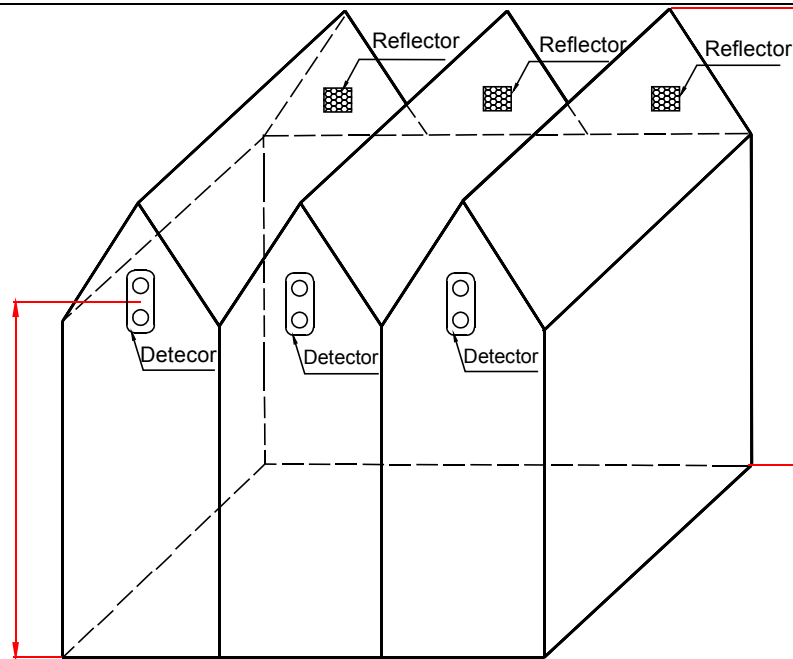

Fig. 7 Mounting
- d) For gable structure with space height about 8m, the detector and reflector should be mounted on the two facing walls 1.5m from the gabled girder, see Fig. 7.